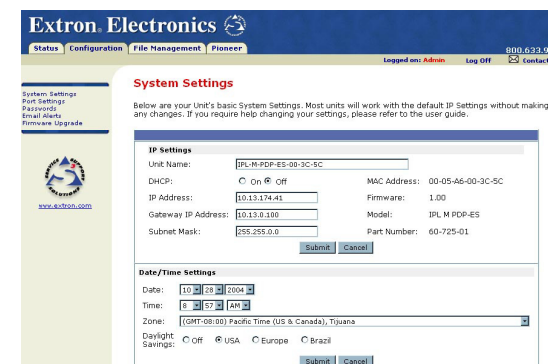

Figure 4-2 — System Settings page
The Systems Settings page (figure 4-2) consists of fields where you can view and edit IP administration and system settings. Date and time information can be easily updated.
7. Click System Settings on the menu (figure 4-2) on the left side of the window.